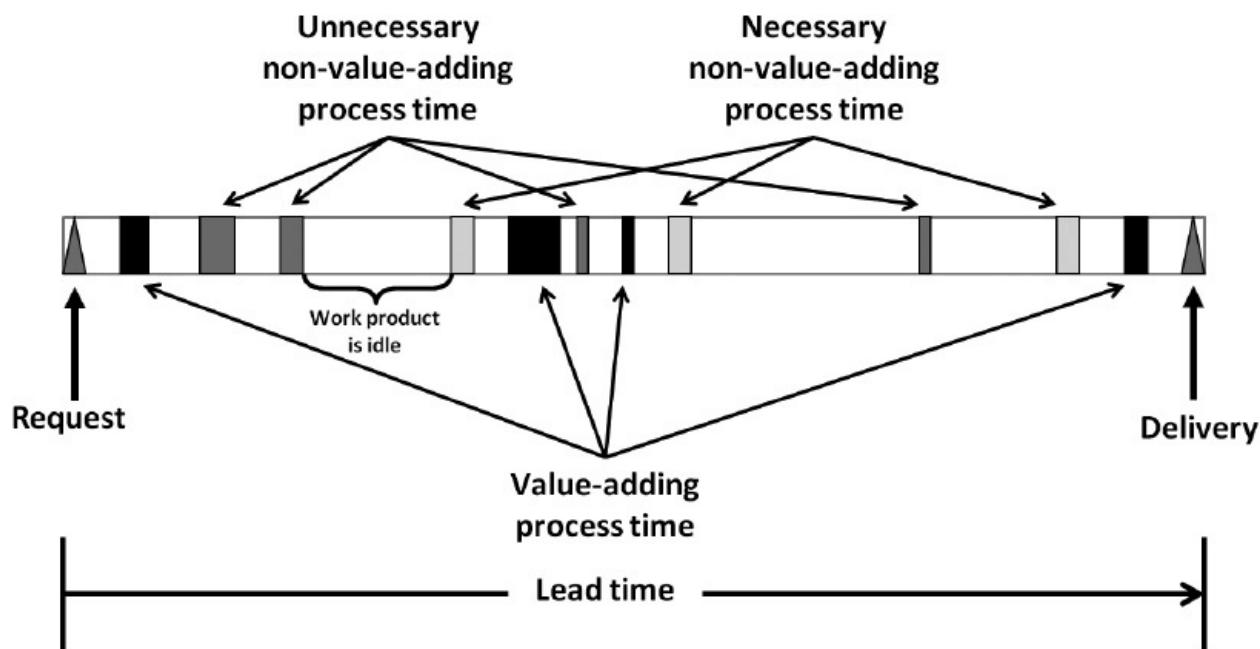

FIGURE 3.4 Process time versus lead time across the value stream
Lead time (LT)—also referred to as throughput time, response time, and turnaround time—is the elapsed time from the moment work is made available to an individual, work team, or department until it has been completed and made available to the next person or team in the value stream. Lead time is often expressed in hours, days, or even weeks or months. If incoming work sits in a department’s electronic queue for an average of six hours before anyone begins work on it, and then it takes a person an average of 30 minutes (process time) to complete the work, and then it’s held for an additional hour before it’s passed to the next function in the value stream, the lead time for that process block is 7.5 hours. Of that time, 30 minutes is process time. In other words, lead time includes queue time and delays plus process time. Figure 3.4 illustrates the relationship between process time and lead time. Note: In value streams with defined service level agreements (SLAs) between two departments, be careful to document the *actual* lead time, not the lead time stated in the agreement.